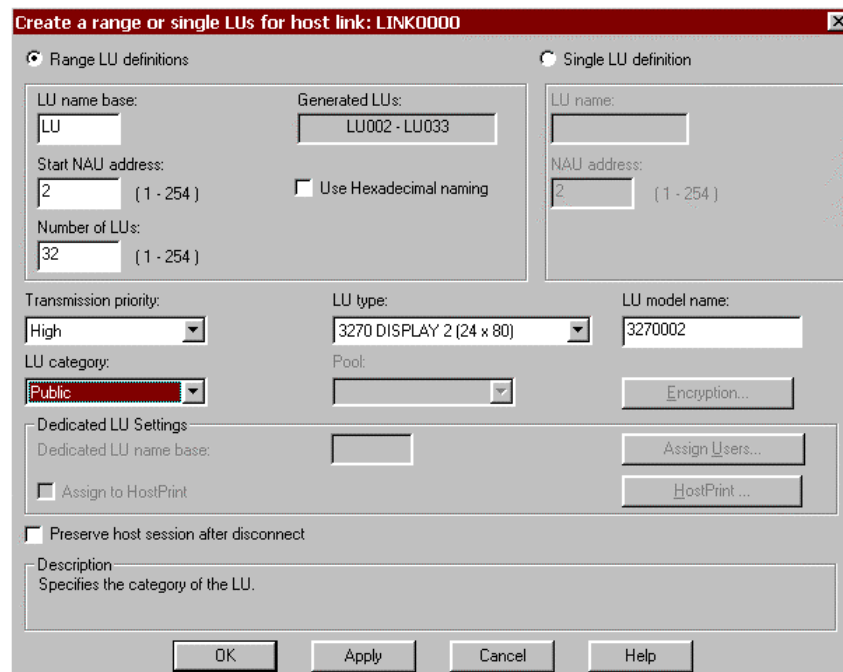

Figure 11-20. Create a range or single LUs for host link
8. Click **Yes** to define LUs. The **Create a range or single LUs for host link** screen will be displayed, allowing you to define LUs. There is nothing unique to the Netfinity ESCON Adapter when defining LUs. Please refer to either the online help or Novell's documentation for information on using this screen. The following example shows how to set up 32 public LUs named LU001-LU032 (Figure 11-20).